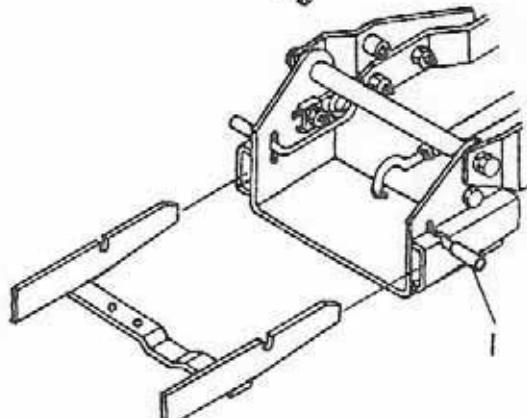

FIGURE 9
- c) Attach the snowblower to the tractor subframe by placing the male hitch flat bar into subframe's female channel hitch (fig. 9). Be sure the male hitch is entered to its maximum and is locked by the springs.
- a) Attach broom to the tractor subframe by placing the male hitch flat bar into the subframe's female channel hitch (fig. 9). Be sure the male hitch is entered to its maximum and is locked by the springs.